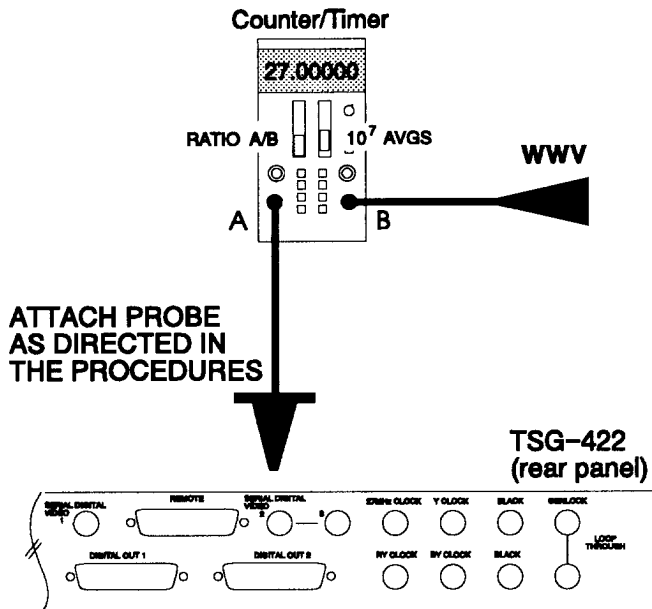

Fig. A-10. Setup to Adjust the Serial VCO Frequency.
- Connect the “—” probe from the digital multimeter to L4 (-12VA as shown in Fig. A-4) and the + probe to TP8 as shown in Fig. A-10.
- Connect the “—” probe from the digital multimeter to L4 (-12VA as shown in Fig. A-4) and the + probe to TP108 as shown in Fig. A-10.